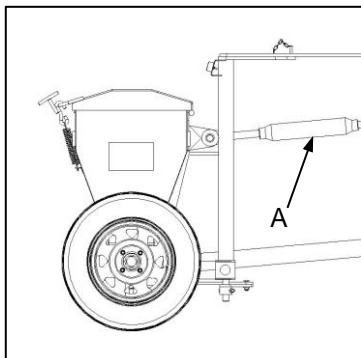

Fig. 1
- ✔ Adjust the tractor 3-point hitch top link (Fig. 1-A) such that the implement is vertical when lowered to the working position.
- ✔ Verstel die trekker se 3-punt-haak-boskamel (Fig. 1-A) só dat die implement vertikaal is wanneer dit na die werksposisie laat sak word.